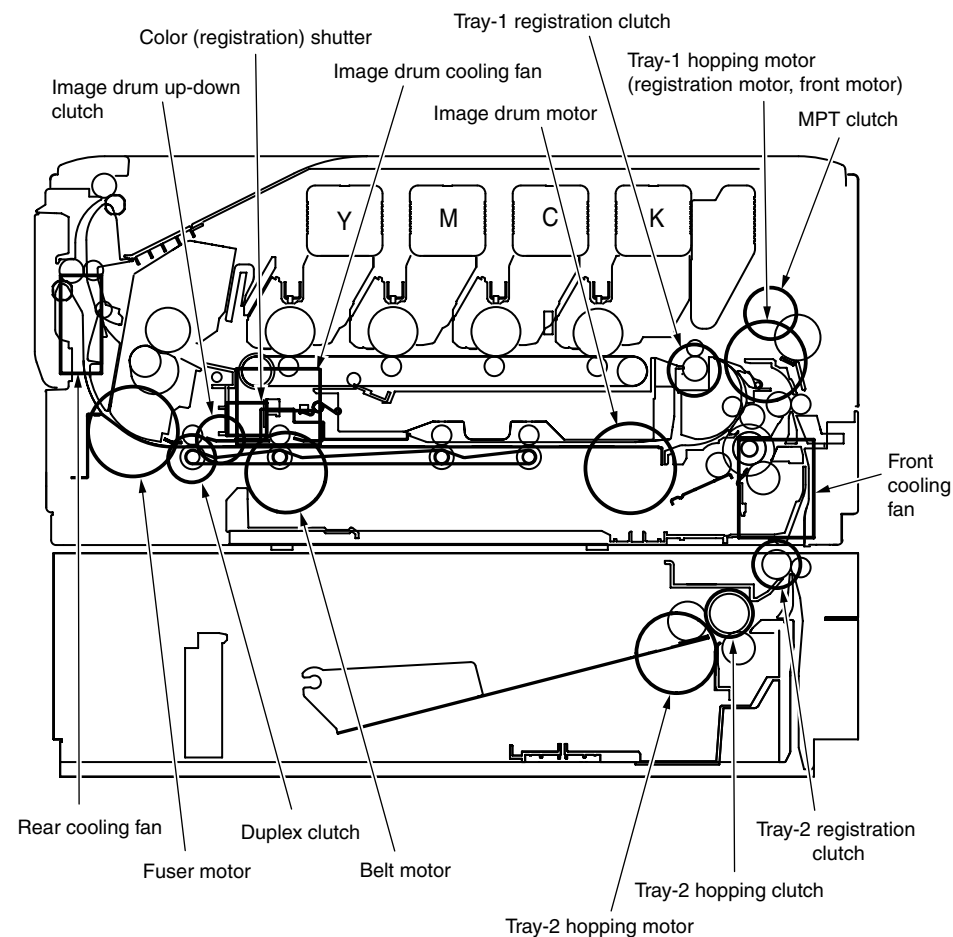

Figure 5-2
3. Press the OK button. The motor and clutch test starts, the unit's the name starting to blink, and the unit being driven for 10 seconds (refer to figure 5-2).